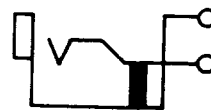

Fig. 5—221E Jack
2.05 221E: This single-mounted jack (Fig. 5) is used with the 1D, 1E, 153, 209, 241, 305, 327, 328, 347, 373, and 464 plugs. This jack is provided with mounting screws and mounted with the springs in a vertical plane. The 221E jack has the same mounting arrangement as the 223A and is equipped with a nickel-silver sleeve.